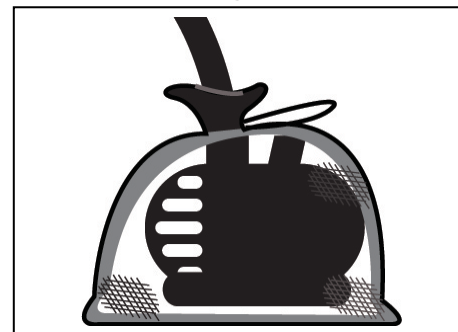

Fig. 3
3. Place the pump inside the pump barrier bag. Pull the drawstring until the pump barrier bag is fully closed around the tubing and power cord. Tie a knot in the drawstring. Fig. 3